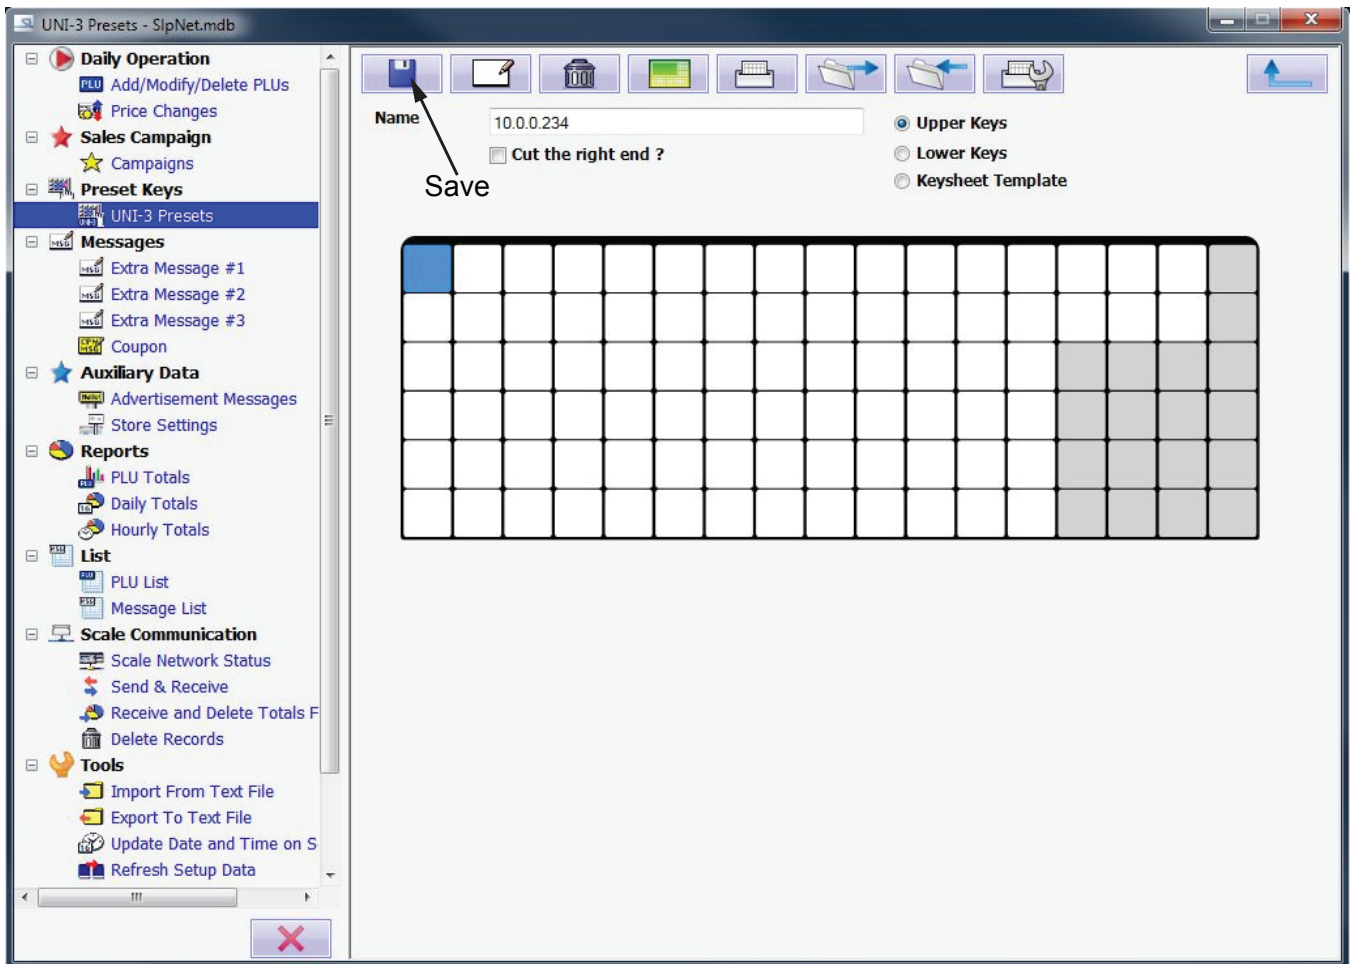

Figure 34-2
29. To save default preset keys, select Save on the UNI-3 Presets - SlpNet.mdb dialog box. See Figure 34-2.